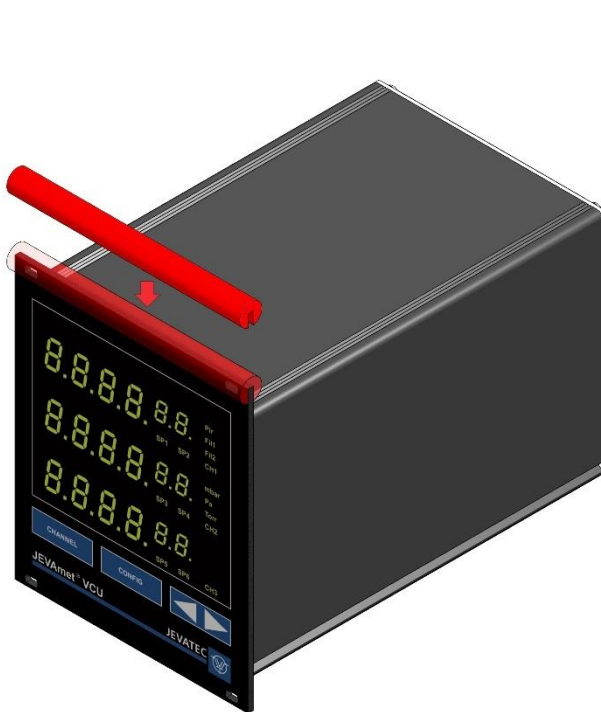

Figure 7 – Preparing the top side of the instrument for utilisation as a benchtop unit
- Push one of the two edge protection rubber pieces included in the delivery over the top edge of the front panel (🔗📖 Figure 7, page 23)